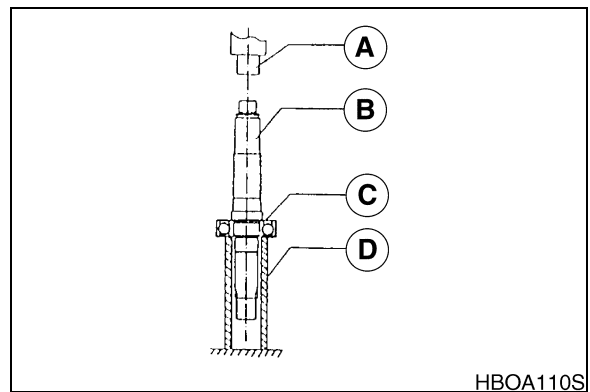

Figure 89
18. Heat bearing (B, Figure 89) (149) and press shaft (B) (102) into bearing.